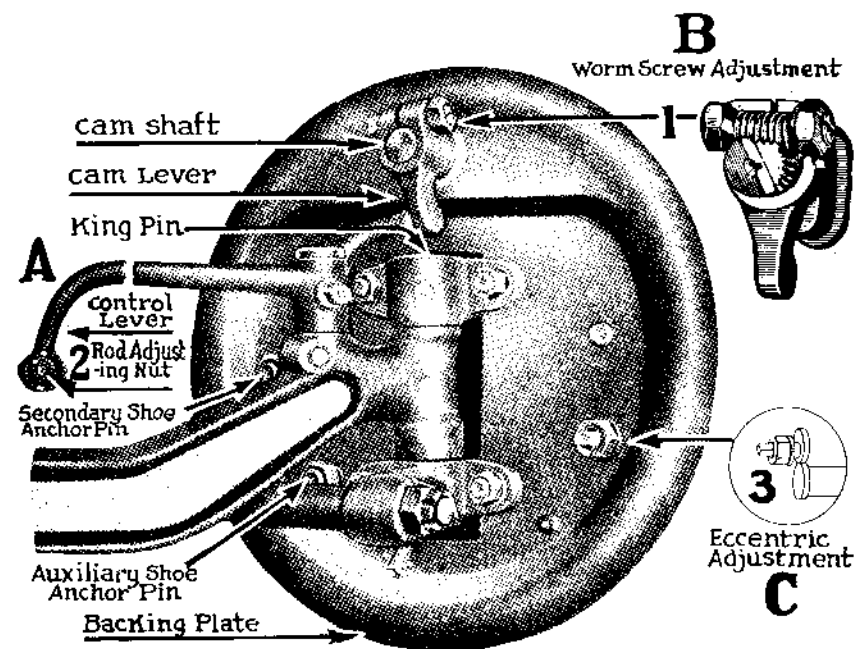
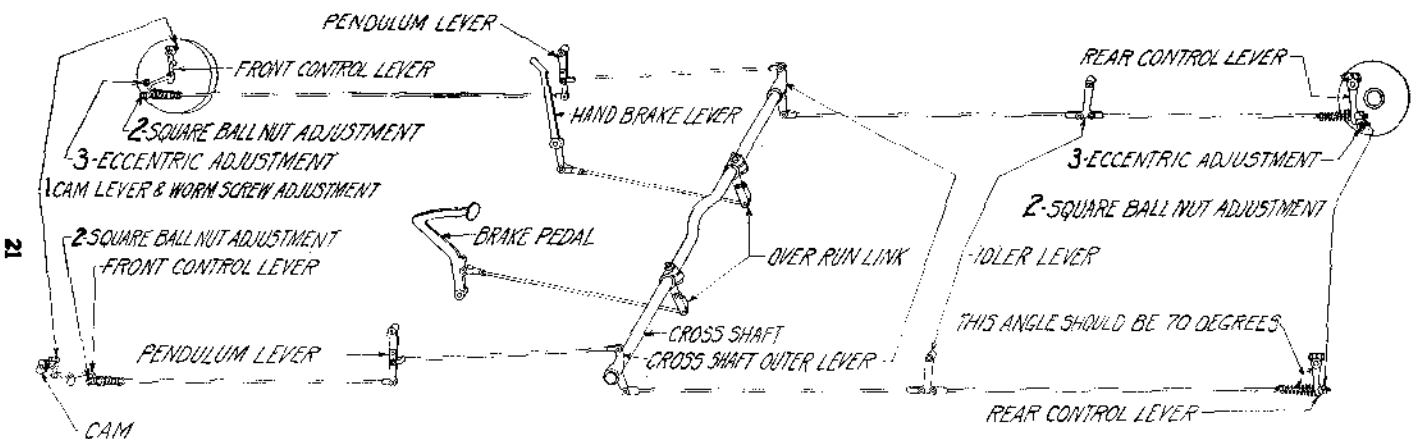

Fig. 5—Lever Control Assembly
Fig. 7—Brake Control
Pressing down on the foot brake pedal or pulling back on the hand brake lever (See Fig. 7), operates in unison all four brakes.
Both the foot brake pedal and hand lever brake are connected, by separate pull rods, to the cross-shaft located just back of the center cross-member of the frame. Mounted on both outer ends of cross-shaft are double levers, known as over-running links to which are attached two pull rods that operate the shoe controls of the front and rear brakes. (See Fig. 7.)
Front Wheels B. Loosen lock nut on worm screw adjustment (1) (Fig. 5 and 7) and turn slot to right until brake shoes are free.
C. Loosen eccentric lock nut (3) (Fig. 5 and 7) at front wheels and turn eccentric in same direction in which wheel revolves when car moves forward, until brake is tight against drum, then back off gradually until wheel is just free. Hold eccentric and tighten lock nut.
D. Turn worm screw (1) (Fig. 5 and 7) to left until brake binds, then back off until wheel is just free. Tighten lock nut.
Brake Adjustment A. Loosen eccentric lock nut (3) (Fig. 5 and 7) at rear wheels, and turn eccentric in same direction for Wear, in which wheel revolves when car moves forward, until brake is tight against drum, then back off Rear Wheels gradually until wheel is just free. Hold eccentric and tighten lock nut.
B. Angle of control levers with brake rods should be from 60 to 70 degrees with the brakes released, otherwise reset as follows: Loosen pinch bolt and slide lever off serrations. Slack off square ball nut (2) (Fig. 5 and 7) to end of thread on rod. Apply brake with Stillson wrench on camshaft and slip control lever on serrations. If brake is too tight move lever back one serration. Tighten pinch bolt. Control levers should have approximately the same angle with the rod on both brakes. (Fig. 7.)
C. Take up square ball nuts (2) (Fig. 5 and 7) until wheels just drag. Back off until wheels are just free. (Fig. 7.)
Equalizing D. Equalize all four wheels as follows: Push pedal down with block or jack to within 3" of floor board or until the tightest wheel can be just turned by hand. Slack off tight wheels one-half turn at a time at the rod adjusting nut (2) (Fig. 5 and 7) on all four wheels, until all four are the same, remembering that a change in the rear brake may affect the front brake on the same side and vice versa. (See Fig. 7.)
Major Adjustments Anchor pins should be adjusted only, (a) When fitting newly lined shoes, (b) When anchor pin nuts are found loose, (c) When other adjustments fail to give satisfactory results. (See Fig. 7.)
To adjust anchors: Jack up all four wheels. Turn eccentric adjustment (3) (Fig. 5 and 7) away from articulating pin and